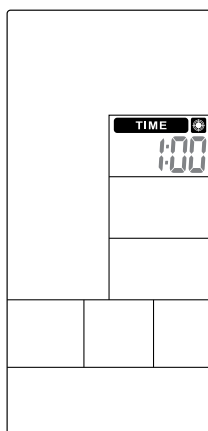

Figure 39
- ① In Standby mode, press Target Time key and **TIME** will light up, along with a long sound for 1s.
- ② **TIME** value is flashing, press UP and DOWN to adjust value (Figure 39) and press ENTER to confirm meanwhile buzzer beeps 1s and **TIME** lasting lighting up.